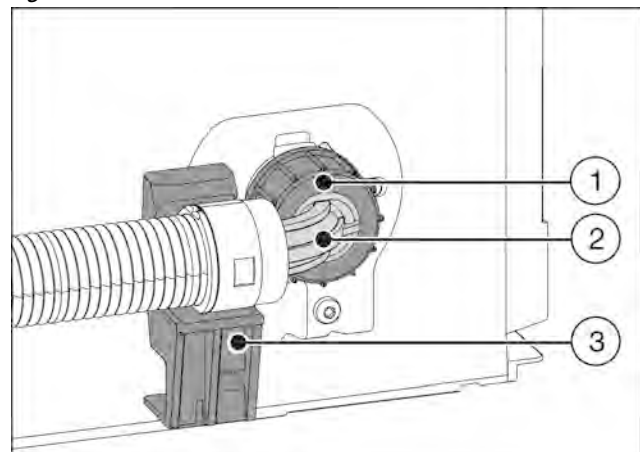

Fig. 23
- ▶ Hold the angled hose end Fig. 23 (2) horizontally at bracket Fig. 23 (3) and secure it.
- ▶ Screw the nut Fig. 23 (1) on by hand until it is firmly in place.